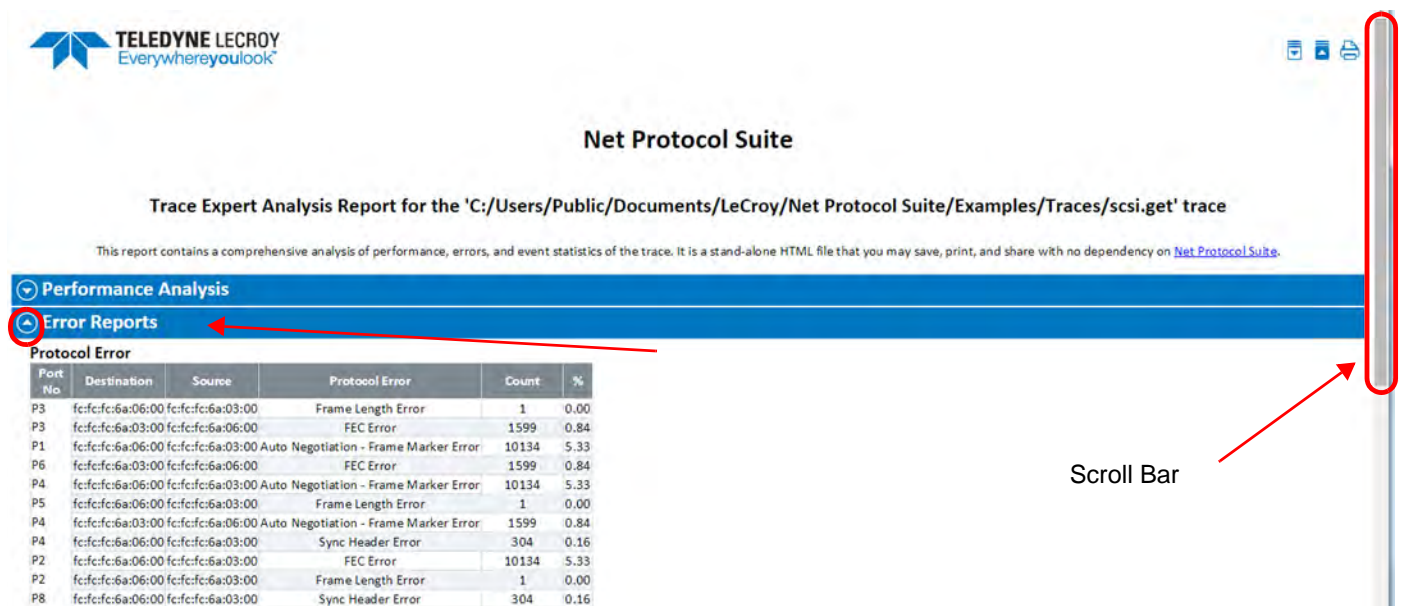

Figure 5.108: Example Error Reports
- To view the Error Report, click its  expansion icon (Figure 5.108).